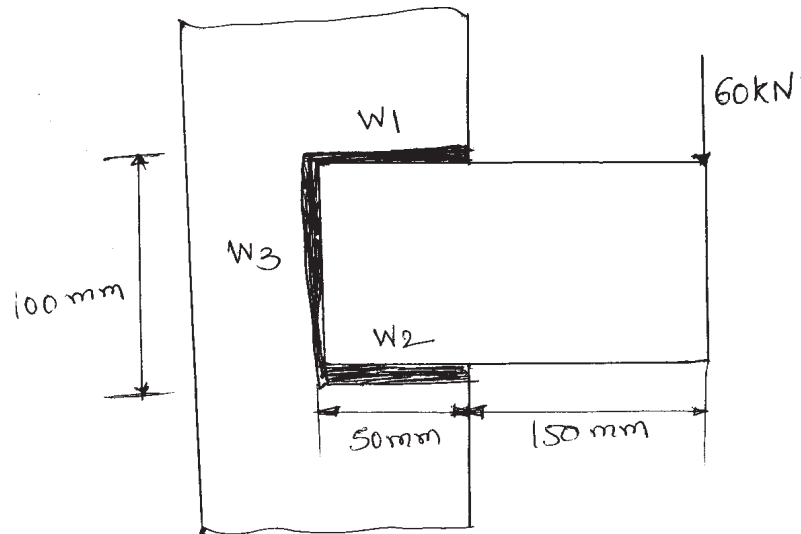

Fig 4B. Weld (Q.No 4B)
- b) A welded connection as shown in fig. 4B. is subjected to an eccentric force of 60 kN in the plane of the welds. Determine the size of the welds, if the permissible shear stress for the weld is 100 N/mm^2 , Assume static condition. [12]